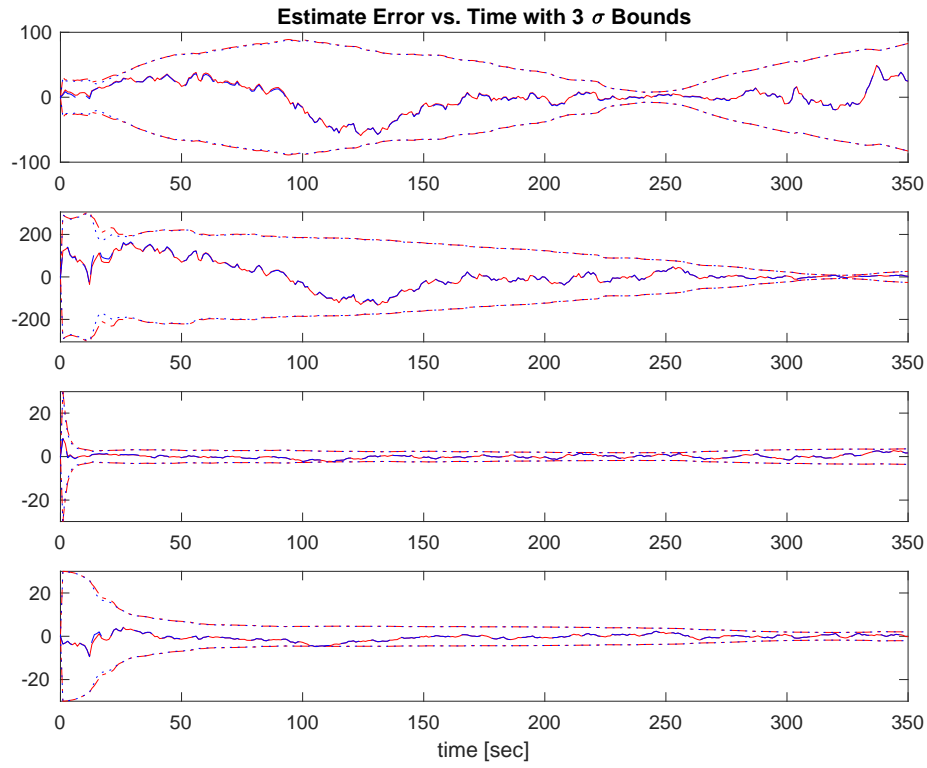

Figure 2: Estimator Results for Problem 3 - 4.
- Create Figure 2 that includes 4 subplots, one for each target state, of the estimate error versus time and the $3 - \sigma$ bounds from the covariance matrix.
- Add plots for the estimate error to Figure 2 using the same color as the estimated target path from the previous part.